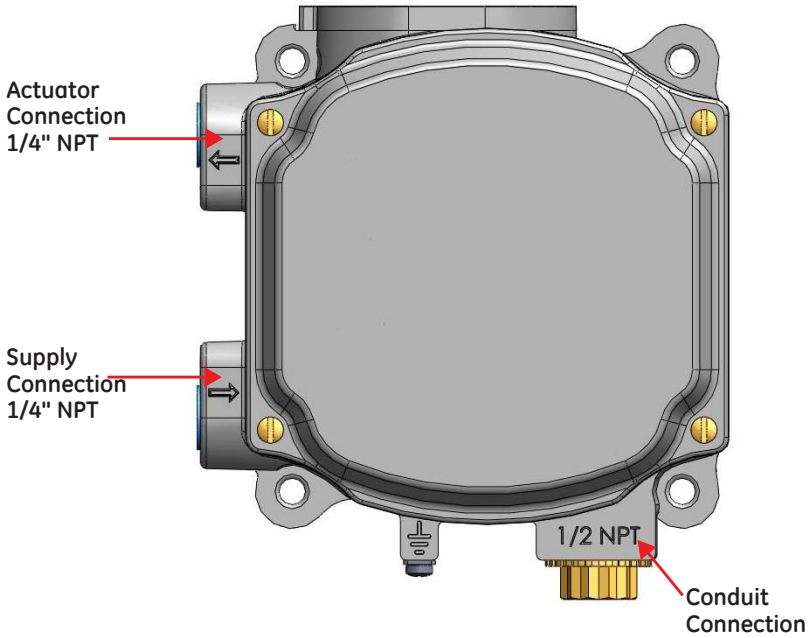

Figure 17 Air Ports
1. Install the tubing to the air supply port. Minimum tubing diameter 1/4" (Figure 17).